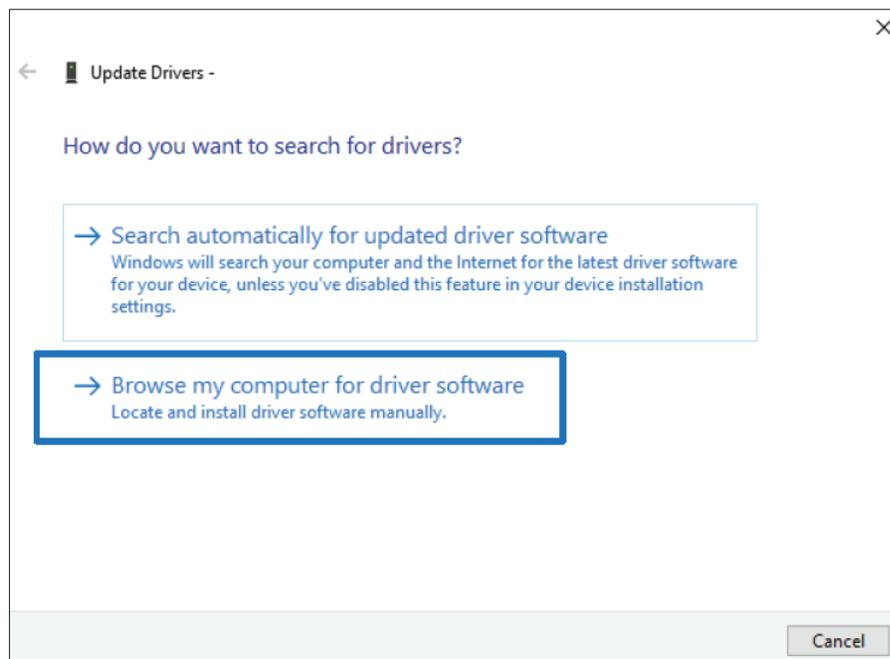

Figure 18
2. Two options will be presented, choose “Browse my computer for driver software”. (Figure 18)